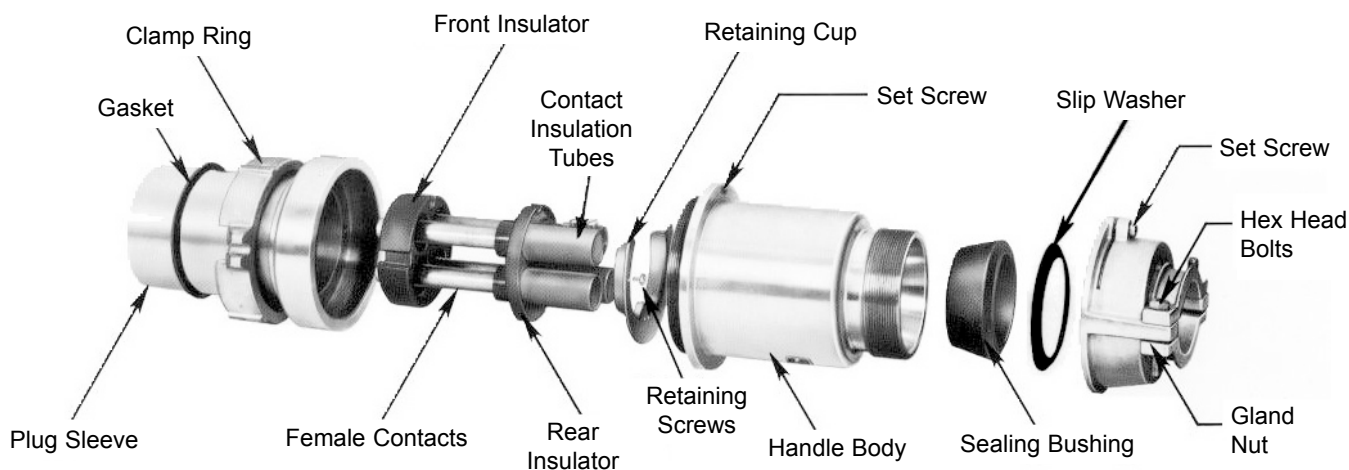

Figure 1. AP Plug Detailed Description (Style 2 Shown)
1. Loosen gland nut set screw two turns. Unscrew gland nut from handle body, remove slip washer and sealing bushing and set aside for later reassembly. See Figure 1.